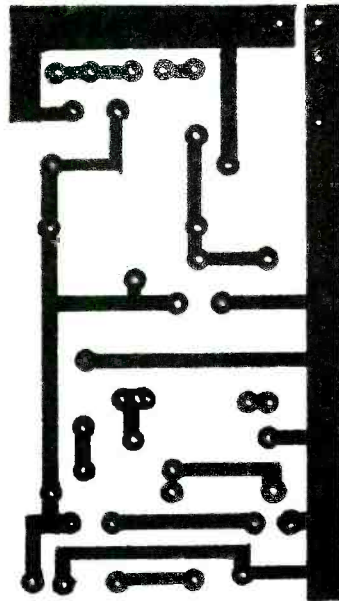
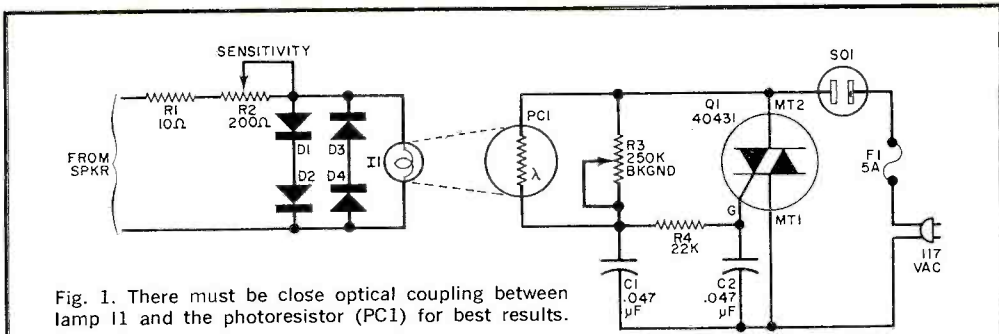

Fig. 2. Actual-size PC board for those who want to make their own. A commercial unit is available.
Fig. 1. There must be close optical coupling between lamp I1 and the photoresistor (PC1) for best results.
**Construction.** The alarm circuit appears in Fig. 1. To reduce the possibility of wiring errors, an actual-size printed board (Fig. 2) can be used. Install the com-
**Construction.** The complete circuit (Fig. 1) can be mounted as shown in Fig. 2, with controls  $R3$  ("Background") and  $R2$  ("Sensitivity") mounted on one side, and the power outlet ( $SO1$ ) and a.c. power and audio lines on the other side. The author chose to mount the circuit on two five-lug terminal strips.
**Power Amplifier.** The power amplifier circuit, shown in Fig. 1, uses five silicon transistors to insure maximum temperature stability. The two power output transistors, *Q4* and *Q5*, are complementary types, as are drivers *Q2* and *Q3*. These four transistors form a class-B, push-pull, emitter-follower power ampli-